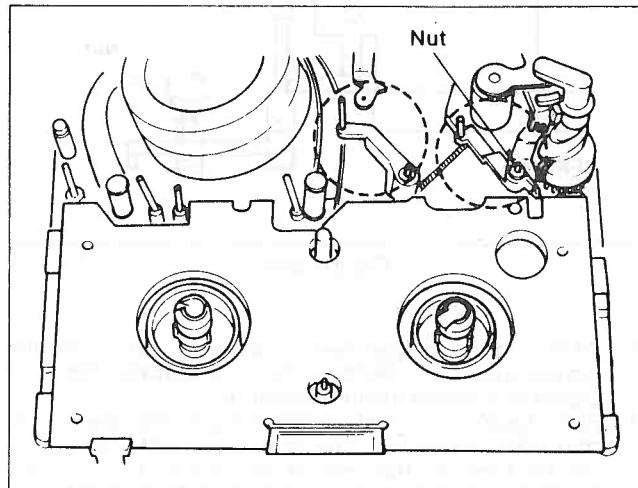

Figure M14
3. Turn the Capstan Motor counterclockwise (loading direction) until the mechanical condition becomes as shown in Figure M14.